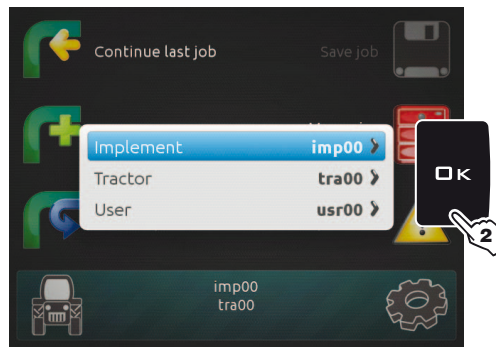

Fig. 53
- 2 In the screen shown in Fig. 53 select the **Implement (Tractor or User)** and press **OK**.